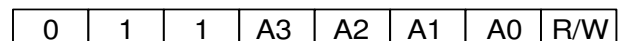

Figure 6: The I²C-Compatible Device Address
After the start condition, the I²C-compatible master sends a 7-bit address followed by an 8th read (1) or write (0) bit. The 8th bit indicates the register address to/from which the data will be written/read (see Figure 6).